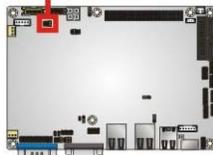

Figure 4-10: LVDS Voltage Selection Jumper Locations
- Jumper Location:** See Figure 4-10